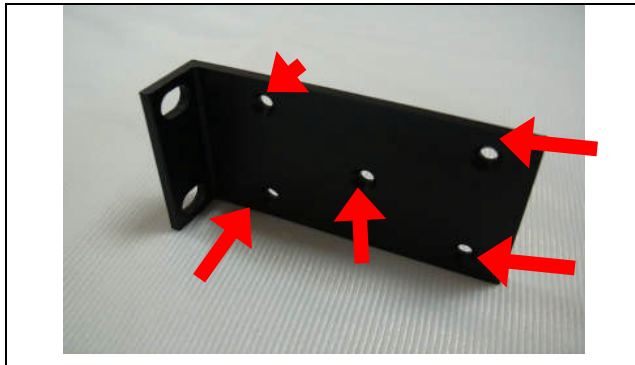

Fig.2-13 Fasten the screws to the side
2. Placing the side with four holes against the chassis and the side with two holes face outward. (**Fig. 2-13**)
3. Fasten five screws on each side (**Fig. 2-13**)